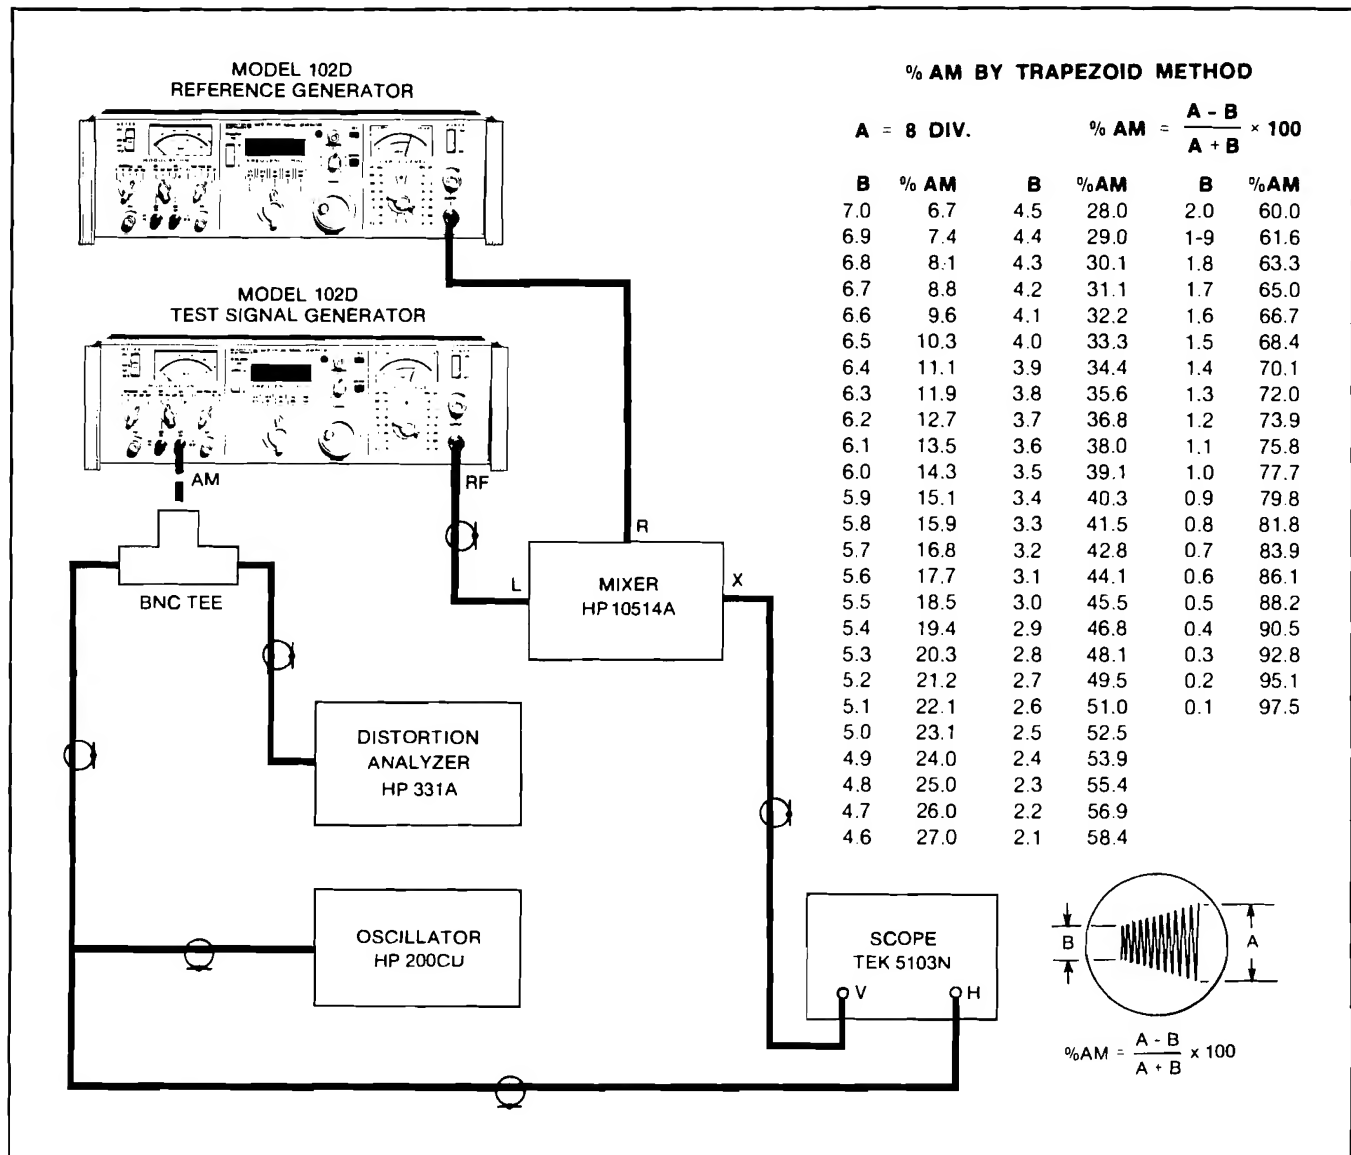

Figure 2-21 AM Sensitivity Check, Test Setup
1. Connect the test Model 102D and test equipment as shown in Figure 2-21
4. Set the oscillator controls to provide an output frequency of 1 kHz. Adjust the amplitude control of the oscillator to produce a trapezoid of 8 divisions (dimension A, Figure 2-21) by 4.3 divisions (dimension B) on the oscilloscope. This corresponds to 30% AM. Observe the voltage indication on the distortion analyzer meter. *The voltage should not exceed 1.0 volt rms.*
1. Set the METER switch on the *test* Model 102D to 30% AM. Set the oscillator frequency controls to provide a 1 kHz output frequency. Adjust the oscillator amplitude control as required to position the pointer of the MODULATION meter on the *test* Model 102D to exactly 30 on the lower scale. Adjust the vertical gain on the oscilloscope as required to produce a trapezoid with an A amplitude (Figure 2-21) of 8 divisions. Measure and record the B dimension of the trapezoid. Calculate the actual percentage of AM, using the formula given in Figure 2-21. *The actual percentage of AM should be 27.0 to 33.0%.*